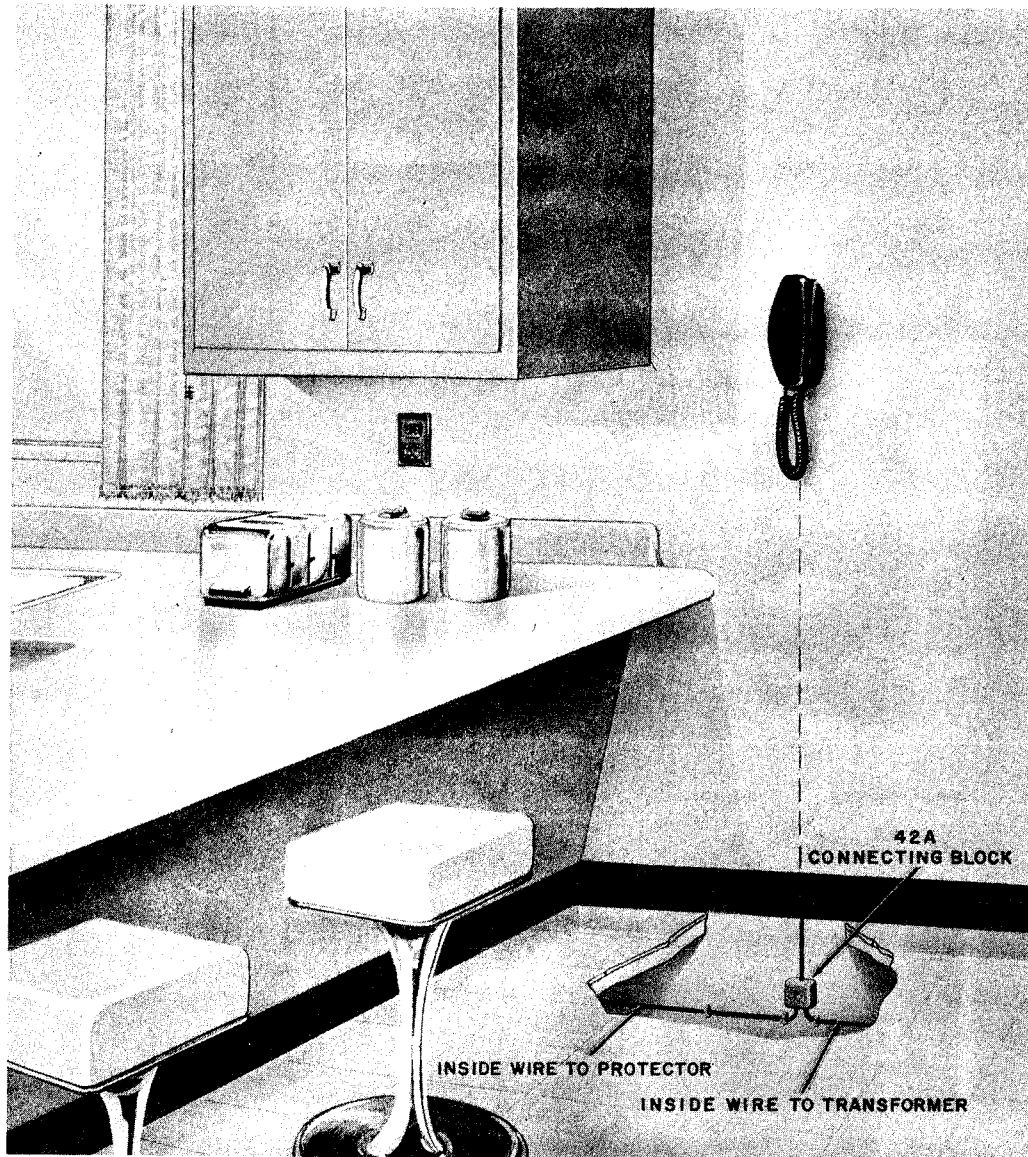

Fig. 4—Typical Installation of AC1 Telephone Base With 220A Hand Telephone Set
- (2) For proper illumination of the dial the length of wire between the transformer and telephone set should not exceed 250 feet of inside wire.
- (3) Ringing and/or identification ground, where required, is common to the lamp circuit. Damage to the transformer may result if there is sufficient ground potential difference between power and telephone grounds. Refer to appropriate section on bonding to power grounds in Division 460.
- (4) A typical AC1 and AD1 telephone base installation including the hand telephone set, is shown in Fig. 4 and 5.
(2) When inside wire to the AC1 (wall) telephone base is exposed, terminate the line and transformer wiring at a common bridging point, such as a 42A connecting block (Fig. 4). Run one quad station wire from the connecting block to the telephone base. Wiring may enter from the opening at the bottom, top, or through the backplate.
(3) In cases where an inside wire is already in place through a wall, an exposed wire run may be necessary between the dial light transformer and the base.
(4) To replace the housing on the base, expose the line switch plunger and hold in place while the housing is placed on the backplate.